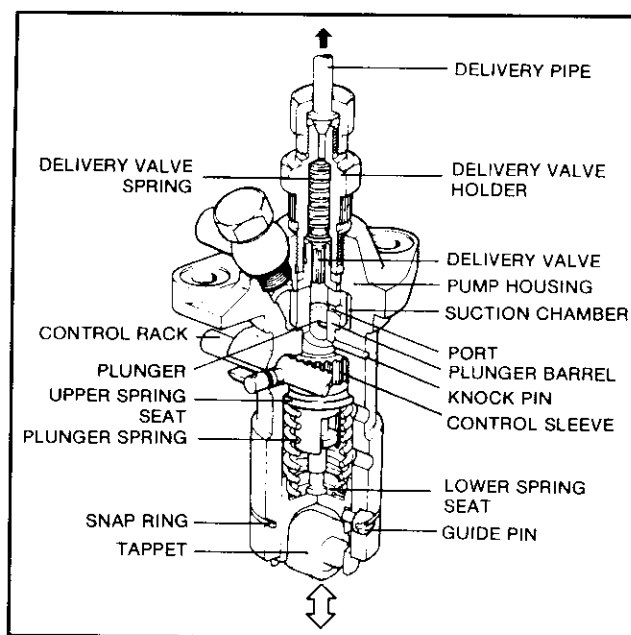

FIGURE 3-52. SINGLE INJECTION PUMP ASSEMBLY
1. Remove one high pressure line (both ends), and the corresponding delivery valve holder, spring, volume reducer, and delivery valve, Figure 3-52. Leave gasket and seat in pump.